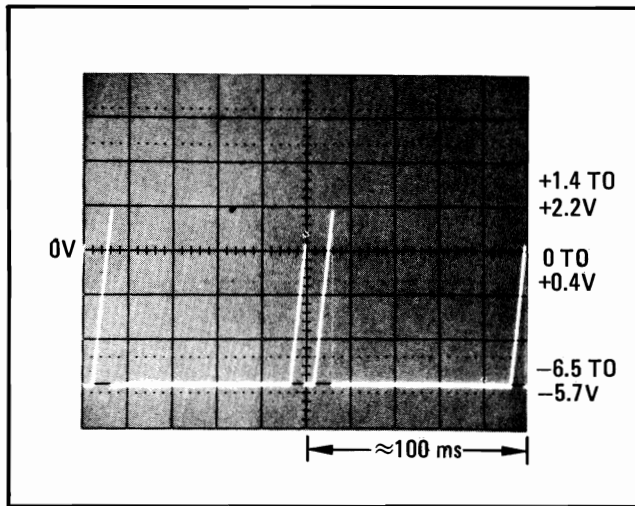

Figure 8-70. Voltage-to-Time Converter Check Waveform A
3. Connect a high-impedance, dc coupled oscilloscope to A4TP7 (RAMP). The waveform should be as shown in Figure 8-70.